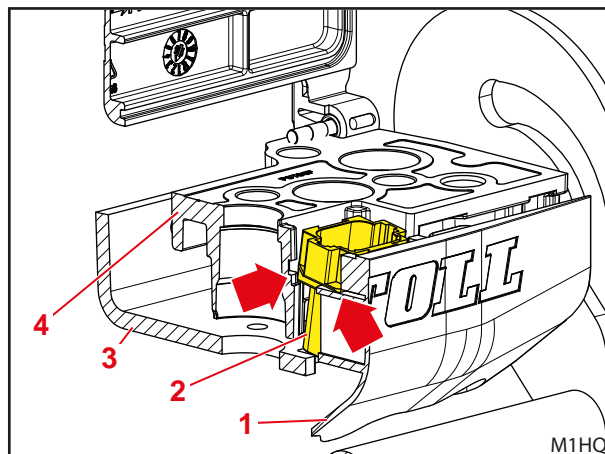

Fig. 13 Installing the Hydro-Fix lower part with integrated electrical interface – Electric plug connector
- (1) Remove the lug on the cover.
- (2) Slide the cover onto the bracket (not all the way to the back).
- (3) Insert electrical plug connectors on the cover.
- (4) Route the electric cable and ground cable on the side and secure with cable ties.
- (5) Slide the Hydro-Fix lower part onto the bracket (not all the way down).
- (6) Set the electric plug connector at a slight angle so that it slides into the guides and support plates (see Fig. 13) when you put the cover and the Hydro-Fix lower part together.
- (7) Slide the cover on completely. At the same time, gently press down on the Hydro-Fix lower part.
- (8) Secure the Hydro-Fix lower part with the 5 screws M8x45.